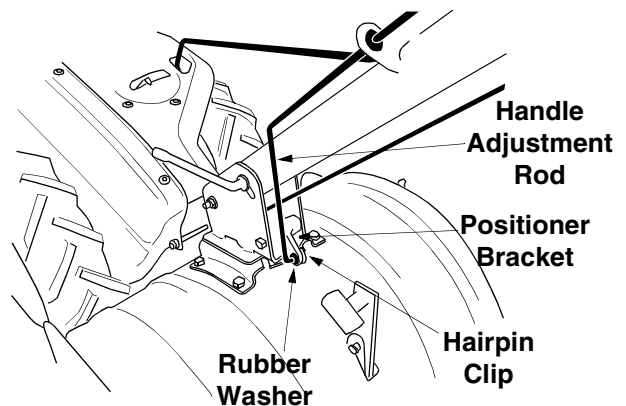

Figure 7
- Slide the rubber washer on the unthreaded end of the handle adjustment rod. Insert the end of the handle adjustment rod into the positioner bracket beneath the handle, on top of the tine shield. See Figure 7. Secure with hairpin clip.